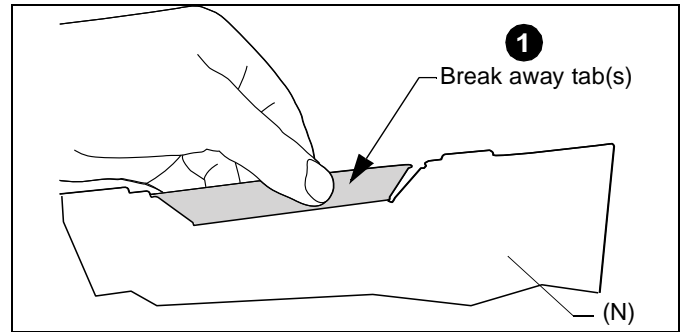

Figure 16
1. Break away the tab(s) on the cover (N) to allow wire exit from the PAC527, and to meet ventilation needs of the components. (See Figure 16)